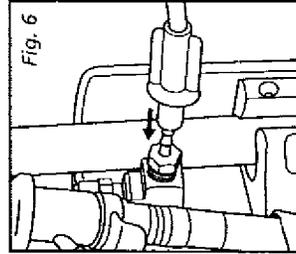

Fig. 6
1. Connect a source of air, oxygen or medical gas blender to the gas inlet; port of Vapotherm 2000i (Fig. 6). Gas inlet connection is a hose barb that accepts female fitting on a standard 1/4" (6.35mm) oxygen tube.